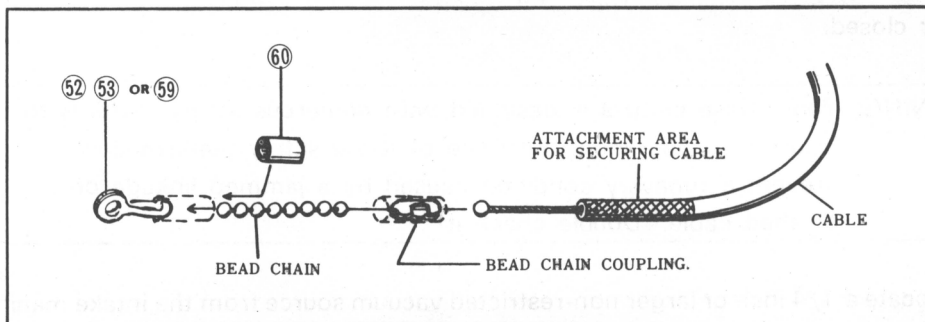

Figure 8.1
3. Slide 1/2" cover (60) over the chain. Next attach a connector to the end of the bead chain. Use either (52) (53) or (59) depending upon the size of connector needed. Tighten the connector with pliers and slide the 1/2" cover over the end of the connector. The end of the cable should now look like Figure 8.1.